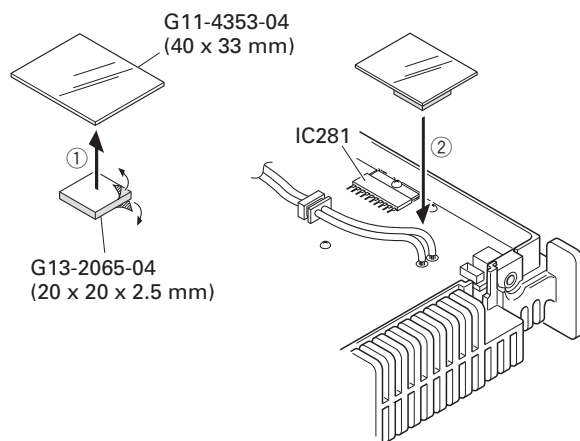

Fig. 3
- Affix the 20 x 20 x 2.5 mm pad to the 40 x 33 mm transparent sheet, then attach it to the TX-RX unit printed area as shown in Figure 3.